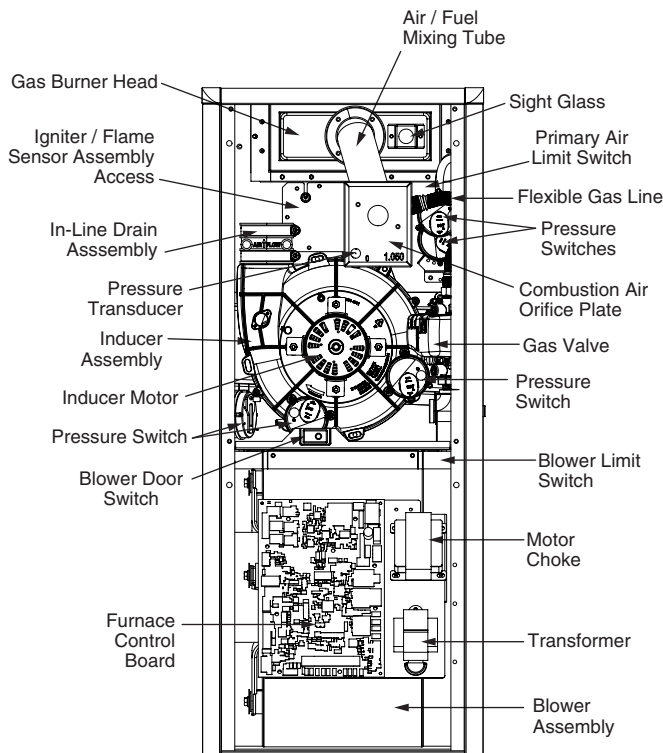

Figure 1. *SD Furnace Components
The furnace components shown in Figure 1 will help to identify and locate various parts of the furnace. The component you need to familiarize yourself with is the gas valve. You will use this to turn the furnace on and off. **There are no user serviceable parts. All repairs must be performed by a licensed HVAC technician.**
7. Set the gas valve switch or knob to the OFF position. See Figure 1 for gas valve switch or knob location.